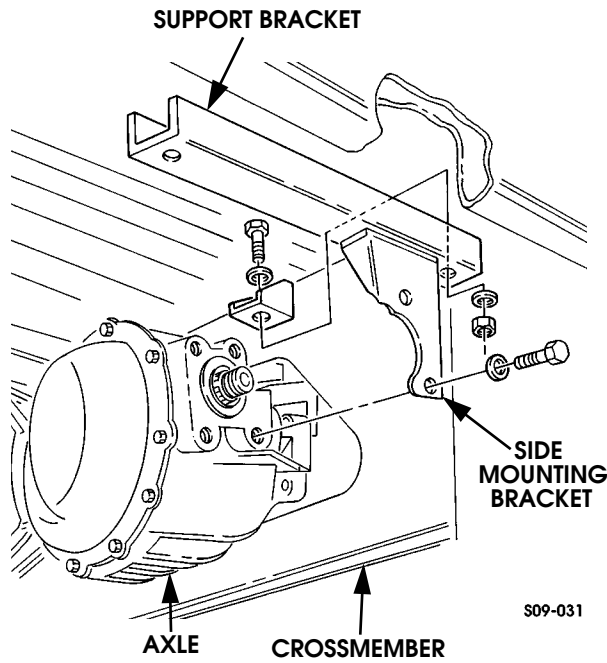

Figure 9-150: Side Mounting Bracket Removal
4. Remove two bolts and washers securing side mounting bracket to axle (Figure 9-150).
2. Install support bracket and side mounting bracket on crossmember with two washers, bolts, washers, and locknuts (Figure 9-150). Do not tighten bolts.
5. Remove two nuts, washers, bolts, and washers securing front crossmember to support bracket (Figure 9-150).
7. Secure front crossmember to support bracket with two washers, bolts, washers, and nuts (Figure 9-150).